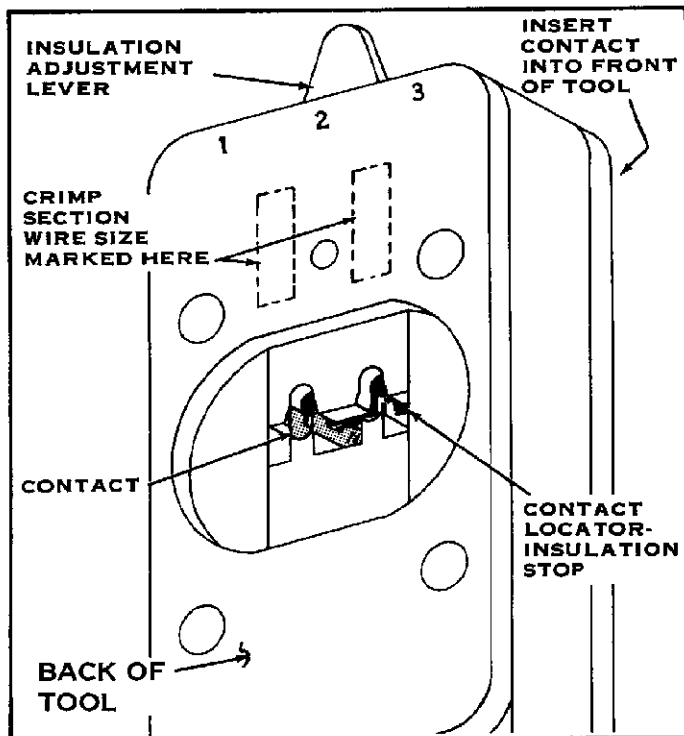

FIGURE I-3
1. Hold the tool so the **BACK** of it is facing you. See Figure I-3.
3. Looking straight into the crimping dies from the **BACK** of the tool, insert a contact (Insulation Barrel first) into the **FRONT** of the tool. See Figure I-3. *Make certain you use the Crimp Section specified for the Wire Size you are using.*